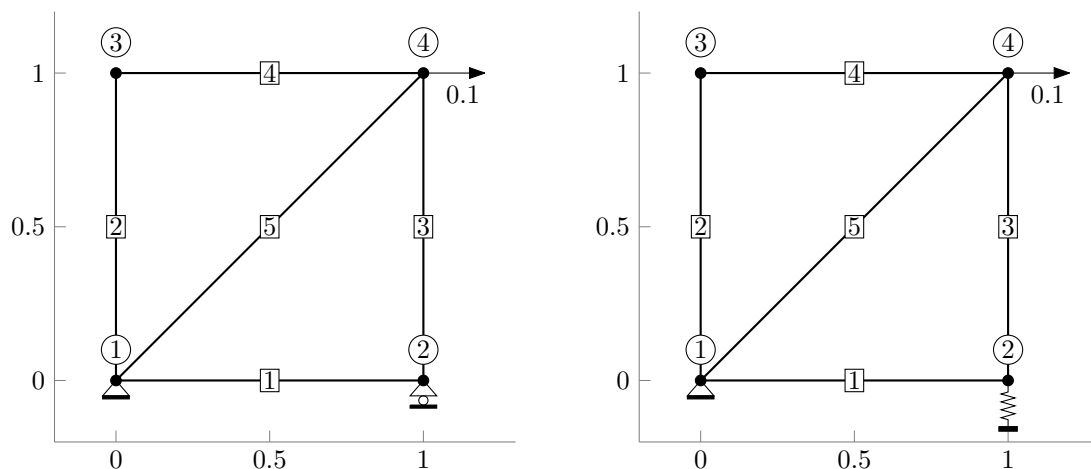

Figure 1: Truss 0 (left) and Truss 1 (right)
**Problem 1:** (30 points) Consider Truss 0 in Figure 1 and assume the Young's modulus times the cross-sectional area for each element is  $EA_e = e$  for  $e = 1, \dots, 5$ .
**Problem 2:** (20 points) (AME60541 only) Consider a truss structure with elastic boundary conditions, e.g., Truss 1 (Figure 1). The spring is at rest when the truss is in its undeformed configuration. Recall the force in a spring is  $F = k\Delta x$  where  $\Delta x$  is the deformation of the spring from its rest configuration. How does the direct stiffness method change when considering elastic boundary conditions? Provide a description in the context of Truss 1 then generalize the procedure to a general 2d truss structure with an elastic boundary condition on any global degree of freedom.
**Problem 3:** (50 points) In this problem, you will implement the direct stiffness method in a series of steps. Before proceeding, carefully review the below code/comments as they provide crucial information regarding the specification of the truss topology, material properties, and boundary conditions, which will be needed for your implementation. For concreteness, the code below defines Truss 0 (Figure 1). Also carefully look through the starter code provided on the course website including the file `notation.m` as it defines the various terms you will encounter throughout the code.
**Problem 4:** (10 points) Use the functions written in Problem 3 to solve for the nodal displacements and reaction forces of Truss 0 (Figure 1). The Young's modulus times the cross-sectional area of each element are:  $EA_e = e$  for  $e = 1, \dots, 5$ . Report the displacements and forces at each node and plot the deformed truss using the function `visualize_truss` provided on the course website. The setup function `setup_truss0` is provided for you in the starter code.